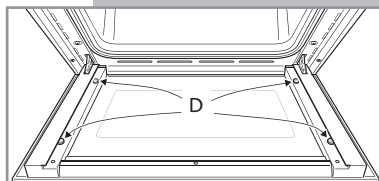

Fig. 26
- Check that the four rubber pads are in place (**D** in Fig. 26).